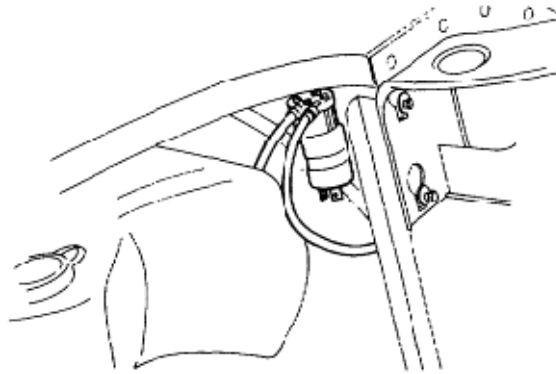

Figure 172 Windscreen Washer Motor Removal
- a. Remove the supply and delivery pipes from the washer motor (Figure 172) and plug the supply pipe with a suitable plastic plug.